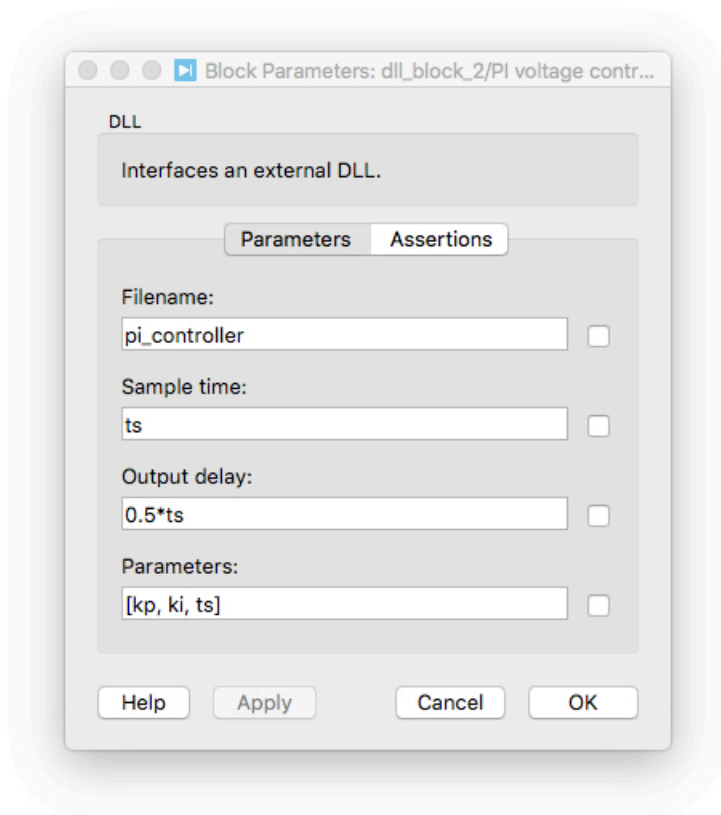

Figure 1: DLL block parameters
- 3 Open the PLECS model, look under the mask of the PI controller **Ctrl + U** and place a PLECS DLL block from the component library under “Control” in the sub-librarie “Functions & Tables”, between the Signal Inport and Outport blocks and connect the appropriate terminals. Configure the block with the parameters shown in Fig. 1.